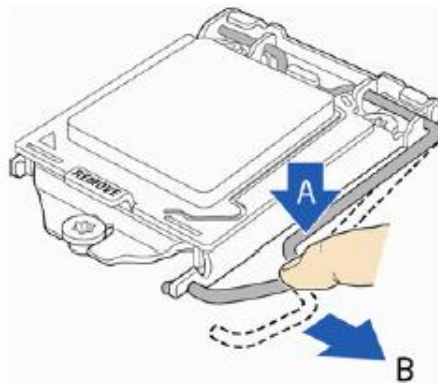

Figure 12: Unlatch the socket lever
1. Unlatch the processor socket lever by pushing it down and away from the socket. (Figure 12, A, B)